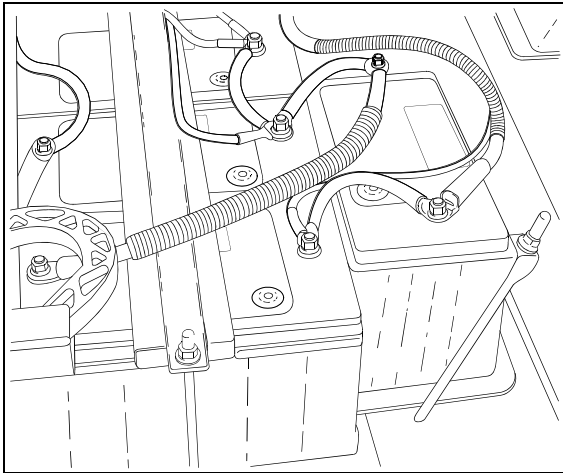

FIGURE 27: BATTERIES (TYPICAL) 06343
The vehicle is provided with four (4) maintenance-free 12 volt heavy-duty batteries connected in series-parallel (Fig. 27). The top-mounted negative and positive terminals are tightly sealed to prevent leaks. Water never needs to be added to this type of battery. There are no filler caps in the cover. The battery is sealed, except for small vent holes in the cover. The vents must not be restricted as they allow small amounts of gases produced in the battery to escape. The special chemical composition inside the battery reduces gassing to a very small amount at normal charging voltages. Besides reducing gassing, the special chemistry greatly reduces the possibility of overcharge damage.